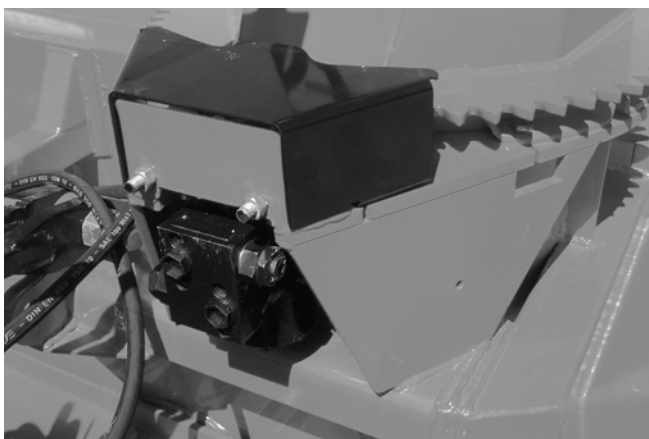

Figure 27
- 5) Install guard. It is important that the cushion valve furnished with your chute rotation kit be installed. Cushion valve has been pre set in plant at 1600 psi. (Fig. 27).